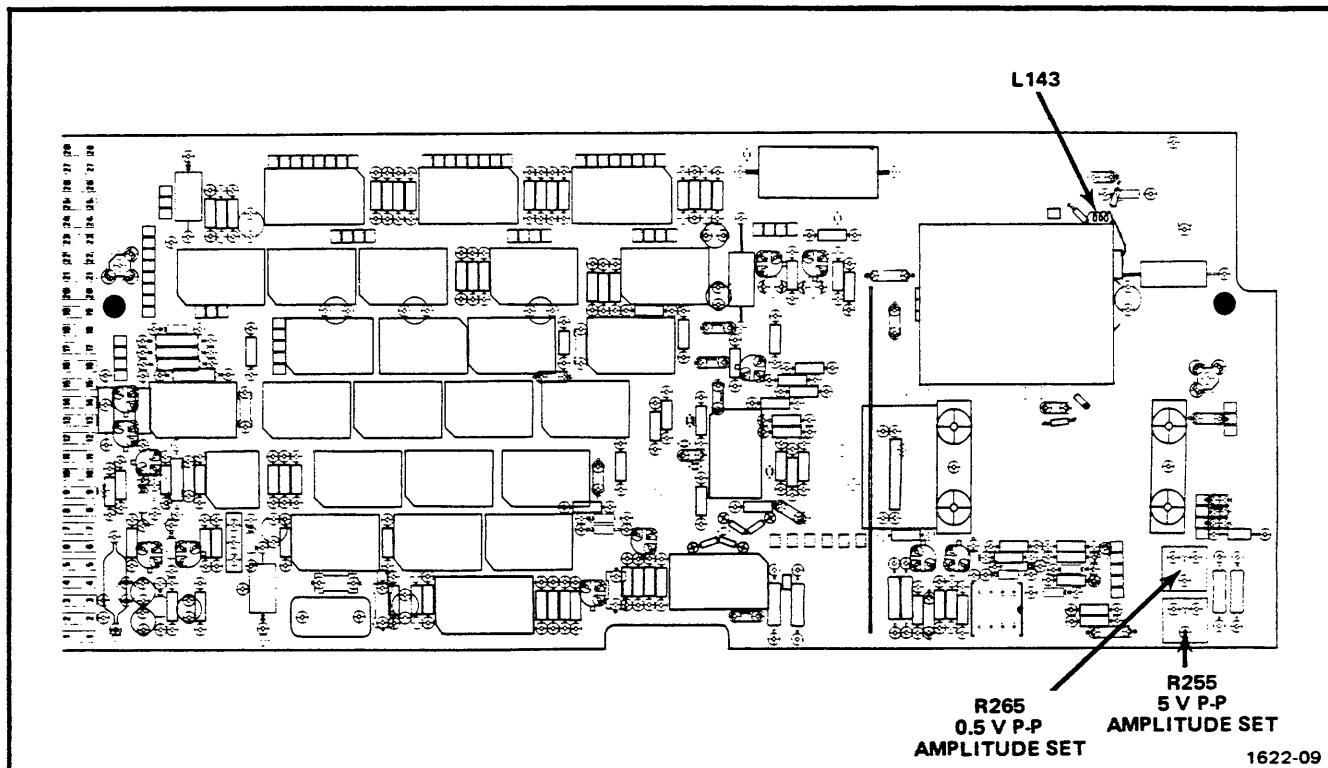
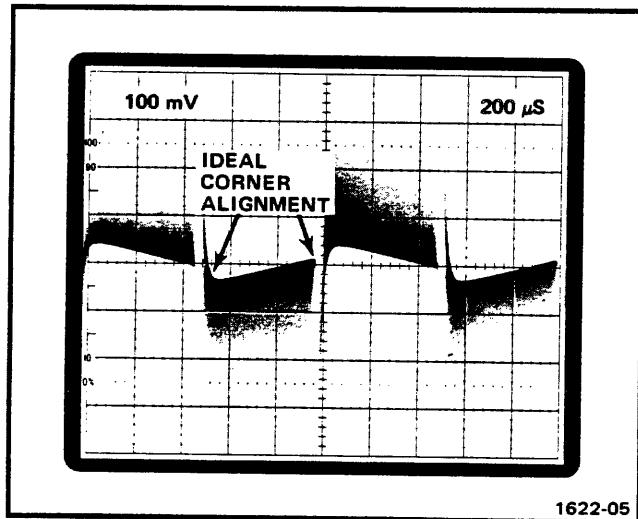

Fig. 3-2. Location of L143, 0.5 V P-P, and 5 V P-P Amplitude Set.
Fig. 3-3. Display of complex waveform (idealized) obtained when the amplitude set controls are properly adjusted at 0.05 MHz.
- f. Adjust—5.0 P-P Amplitude Set, R255, so the corners of the idealized waveform are aligned as illustrated in Fig. 3-3. See Fig. 3-2 for adjustment location.
- d. Set the time-base triggering controls for a stable display; a crt display similar to Fig. 3-3 is obtained.
- e. Check—that the corners of the idealized waveform are aligned as illustrated in Fig. 3-3. Disregard waveform tilt.
- i. Check—that the waveform is similar as illustrated in Fig. 3-3.
- j. Adjust—0.5 V P-P Amplitude Set, R265, so the corners of the idealized waveform are aligned as illustrated in Fig. 3-3. See Fig. 3-2 for adjustment location.
c. Check—that the corners of the idealized waveform are not separated by more than 1.5 vertical divisions. See Fig. 3-3 for waveform illustration.
g. Check—that the corners of the idealized waveform are not separated by more than 1.5 vertical divisions. See Fig. 3-3 for waveform illustration.
- e. Adjust—L143, (physically moving coil), to meet the suppression requirement as given in part d of this step. See Fig. 3-2 for adjustment location.